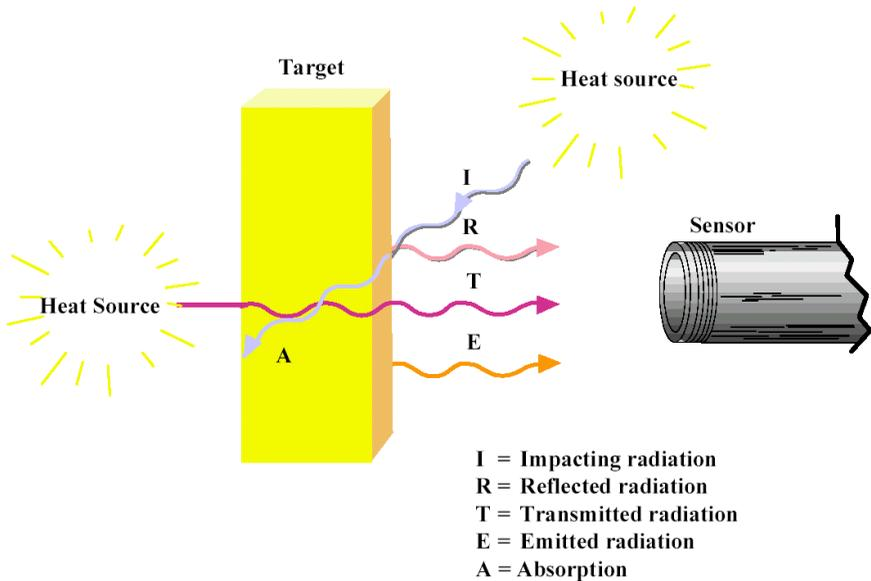

Fig. 4 In addition to the radiation emitted from the target, the sensor also receives reflected radiation and can also let radiation through.
where emissivity is also dependent on temperature and wavelength are called non-gray bodies. Furthermore, the sum of emission is composed of absorption (A), reflection (R) and transmission (T) and is equal to one. (See Equation 1 and Fig. 4).